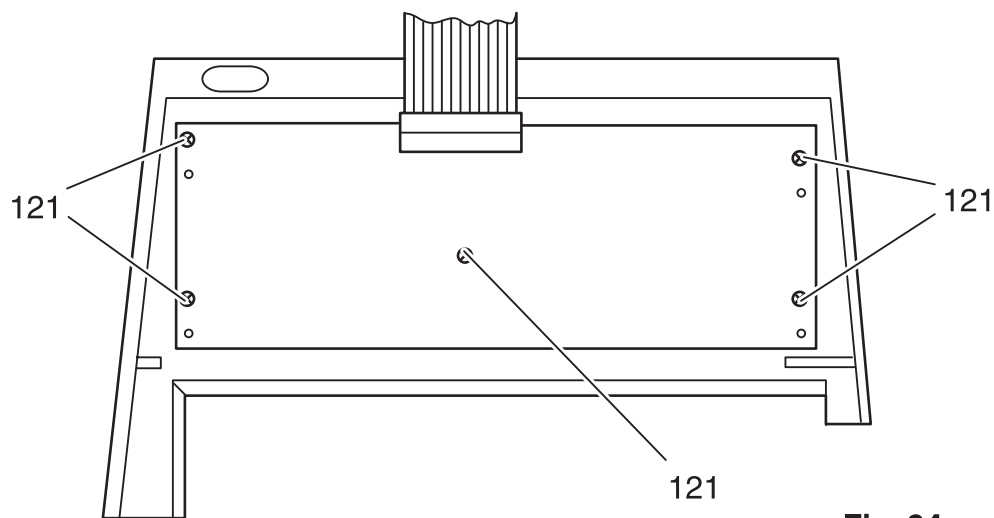

Fig. 94
- Secure the circuit board with the five fastening screws 121 (Fig. 94).